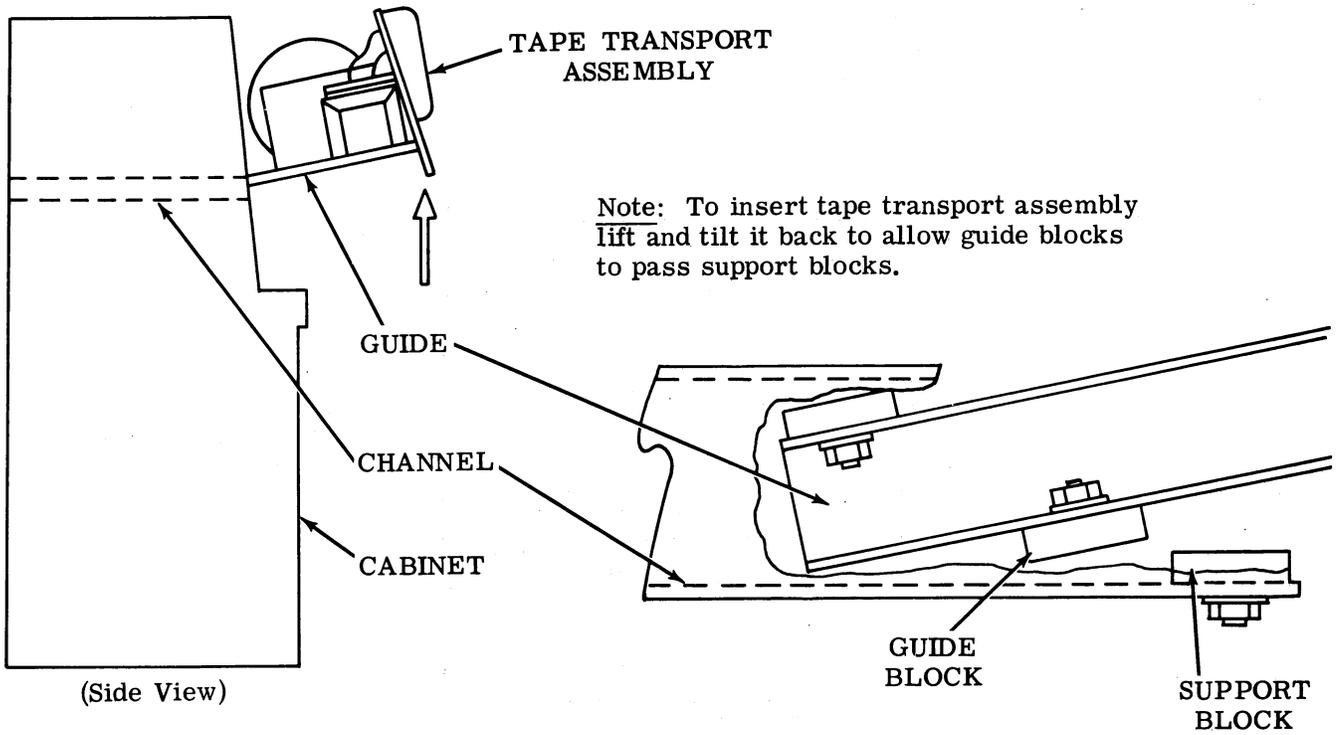

Figure 5 - Tape Transport Assembly Installation
2.13 Lift the tape transport assembly from the pallet and install it on cabinet as illustrated in Figures 5 and 6.